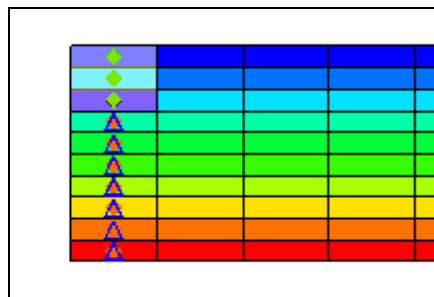

Figure 3 Select the top three cells in the leftmost column
1. Using the **Select Cells**  tool, select the top three cells in the leftmost column (Figure 3).